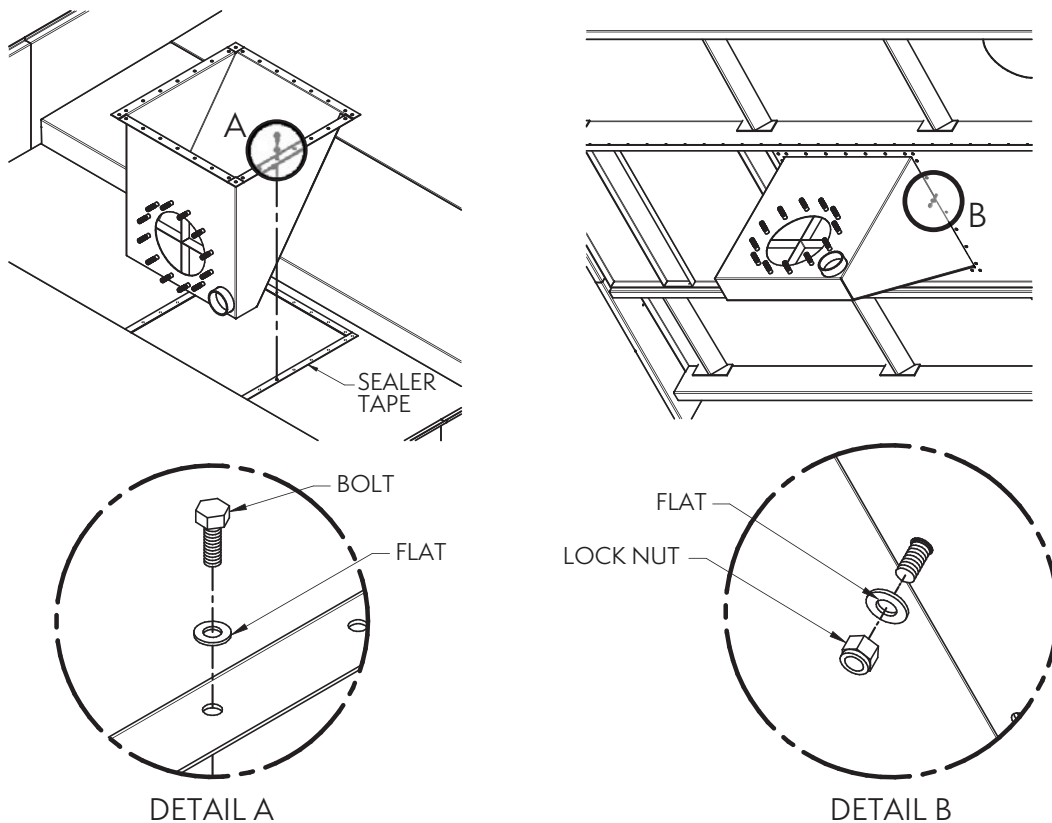

Figure 4 – Side Outlet Depressed Sump Box Installation
1. Locate square opening in the deepest part of the towers basin. Clean all mating flanges and apply sealer tape over the bolt holes surrounding the opening, as shown in **Figure 4**.